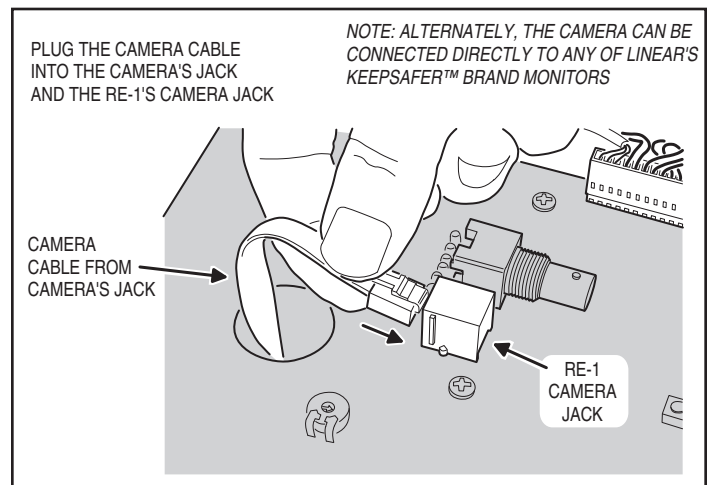

Figure 26. Connecting the Camera Cable
5. Plug the double-ended modular cable into camera's jack and the RE-1 **CAMERA** jack (see Figure 26).